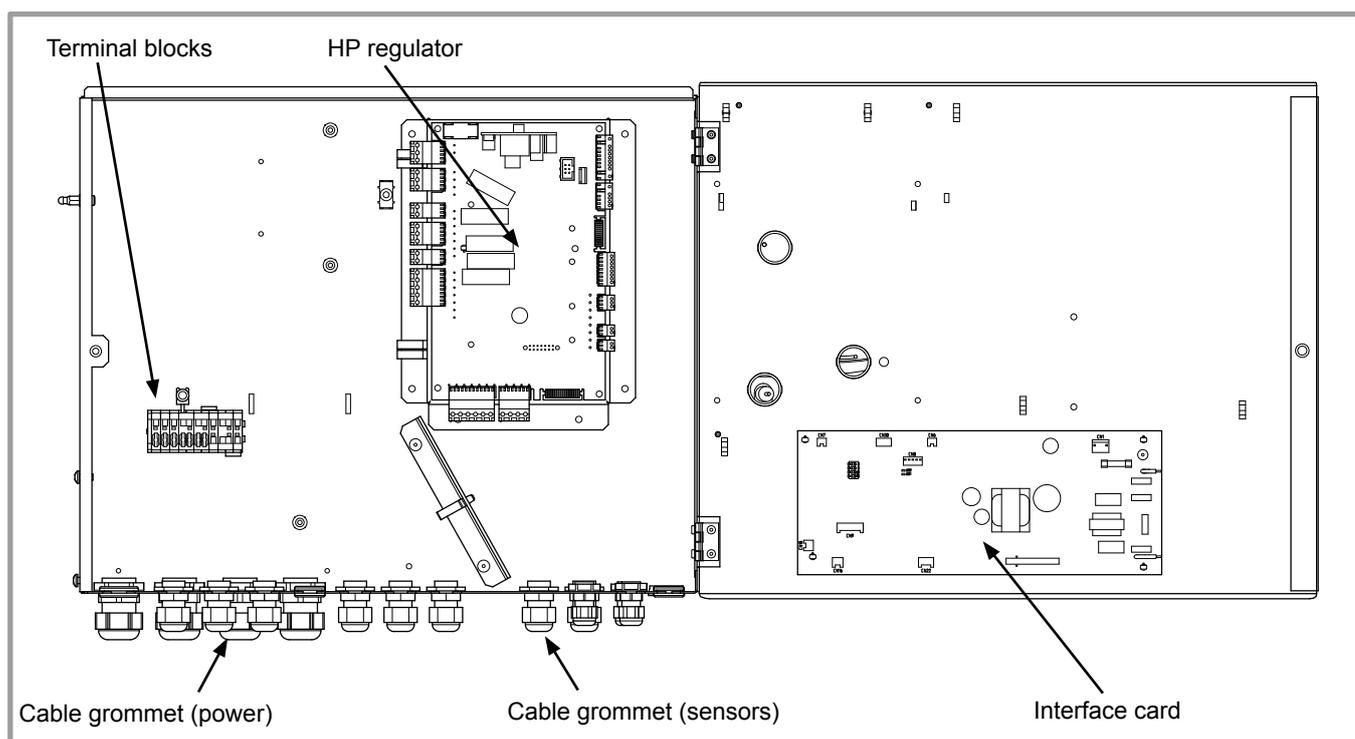

figure 26 - Access to hydraulic model electric box and description
- Make the connections in accordance with the diagram figure 26, page 27.